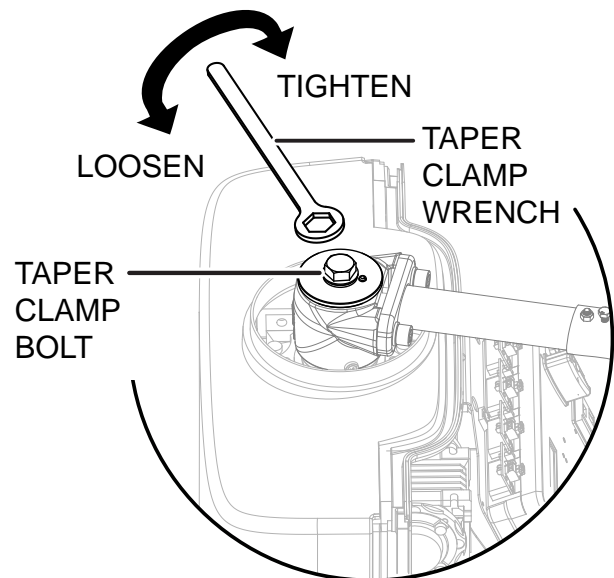

Figure 20. Loosen the Taper Clamp
2. Loosen limit sensor bracket screws with a 5 mm allen wrench (Figure 20).